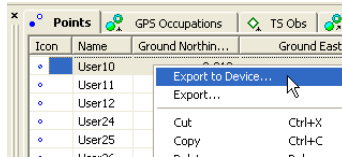

Figure 8-6. Export Data to Device
- Select the desired data and click **Job ▶ Export to Device**, or press **Shift+F4**, or click the **Export to Device** button on the Toolbar, or right-click and click **Export to Device** on the pop-up menu to export desired data to the selected file format and send a created file to a Topcon Device as shown in Figure 8-6.